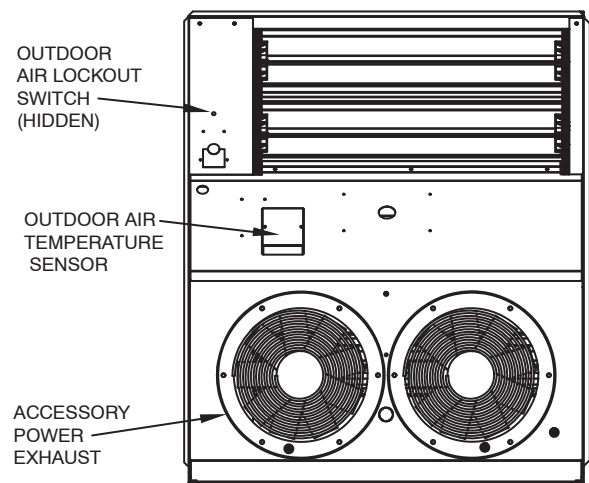

Fig. 8 – Sensor Locations
- The OAT sensor and outdoor air temperature lockout switch are factory installed on the EconoMi\$er IV. (See Fig. 8.)